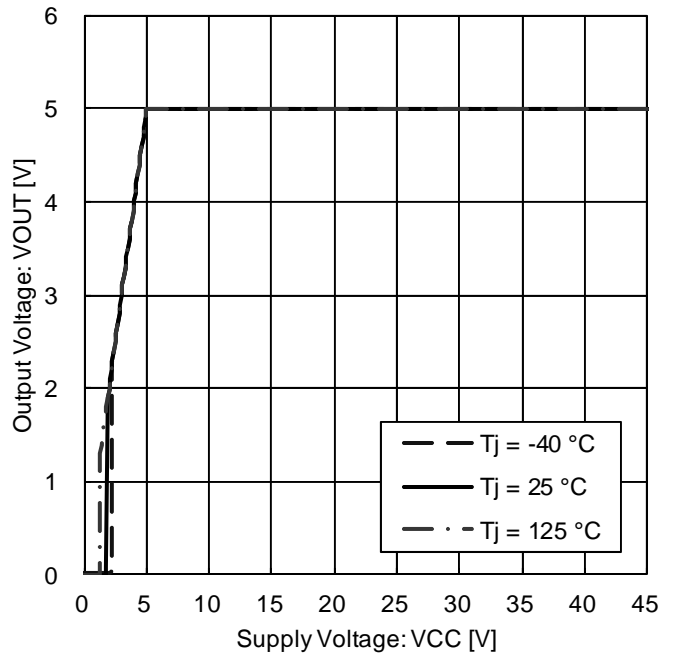

Figure 24. Output Voltage vs. Power Supply Voltage (IOUT = 0 mA)
*Magnified Figure 24. at low supply voltage